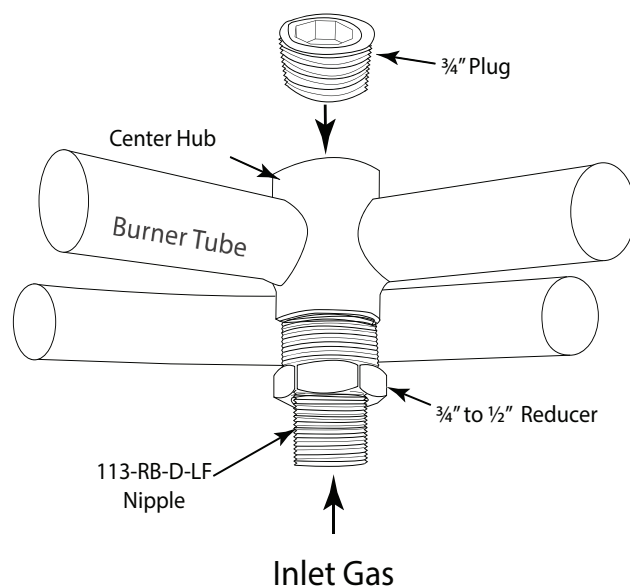

Fig. 10 Natural gas models 30/36/48-inch fire ring parts.
Note: The ½" reducer may not be needed depending on the size of the inlet gas line coming into the fire ring. These items must be installed into the fire ring as shown in Fig. 10. Position the Fire Ring port holes facing upward if using Natural or Propane (LP) gas. **Ensure each NPT fitting has thread tape or pipe compound.**
Step 1: Install ¾" plug on top of fire ring and assemble the remaining parts as shown in Fig. 10.